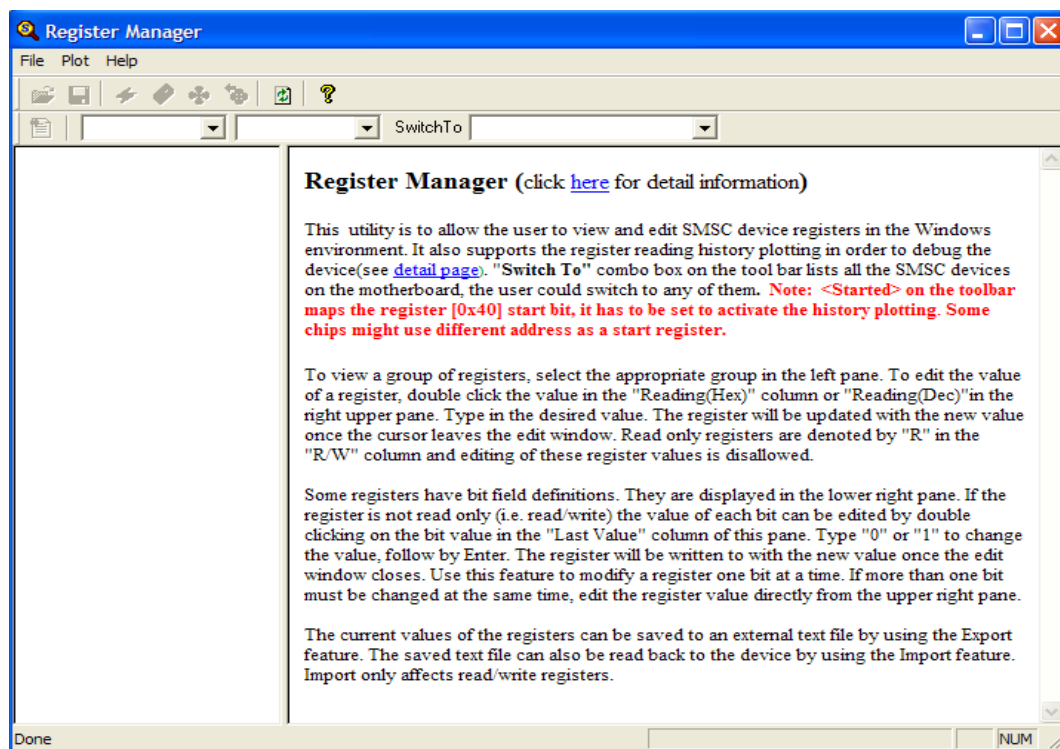

Figure 2.2 Register Manager Help Screen
3. Start the EVB Software by selecting the Register Manager application from the SMSC folder from the Programs Windows Start menu. The EVB will initialize and the Register Manager Help screen will appear as in Figure 2.2. The USBAct LED should be blinking when the Register Manager is running.